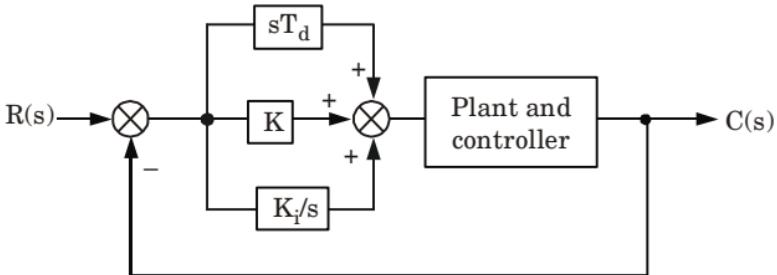

Fig. 2.23.1.
6. This can be realized as shown in the Fig. 2.23.1.